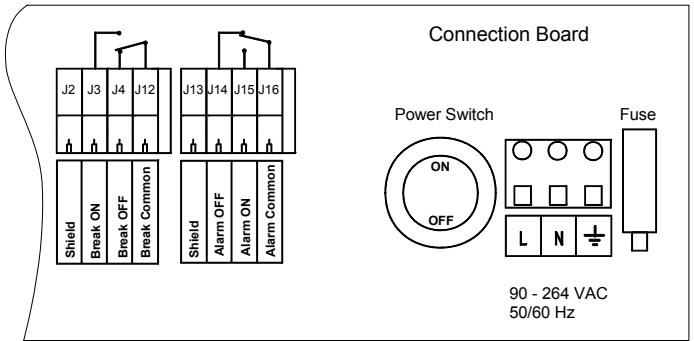

Figure 2. Wiring diagram.
- Check the wiring of break signal (Fig. 2.)
- Check the wiring of alarm signal (Fig. 2.)